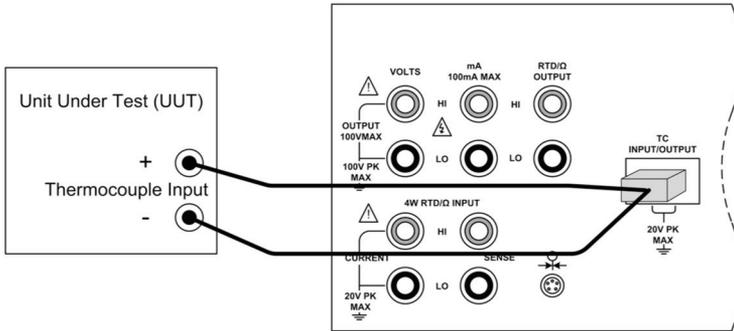

Figure 15 - Thermocouple Output Connection
- e) Connect the unit under test to the thermocouple terminals of the PD9500 using a standard T/C mini-plug as shown in figure 15. One pin is wider than the other; do not attempt to force the plug in the wrong polarization. The T/C wire used for the connection must match the